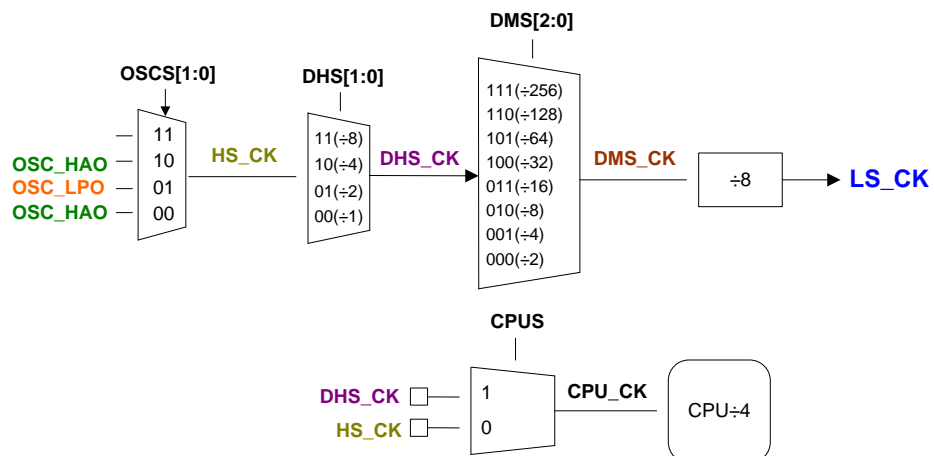

Fig 3-2 CPU and Peripheral Working Clock
- When CPU\_CK frequency and instruction execute cycle, it is as in Fig 3-2. Table 3-2 lists the relation between CPU working frequency and instruction cycle briefly.